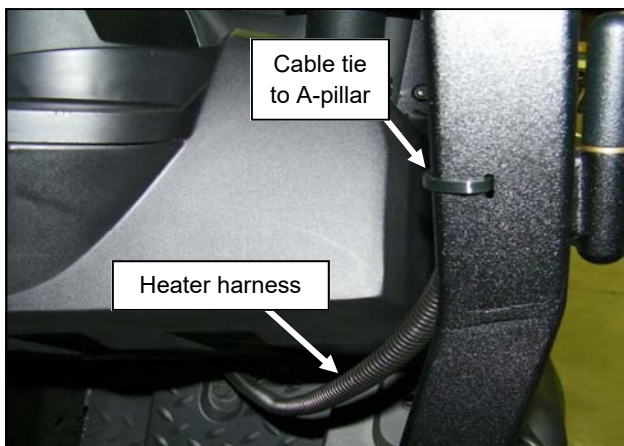

Fig. 3.7
- 3.7 Route the Heater harness along the inside flange of the passenger's side A-pillar and secure with cable ties through the slots in the A-pillar. Route the heater harness underneath the dashboard toward the front compartment of the Carryall. See Figure 3.7.